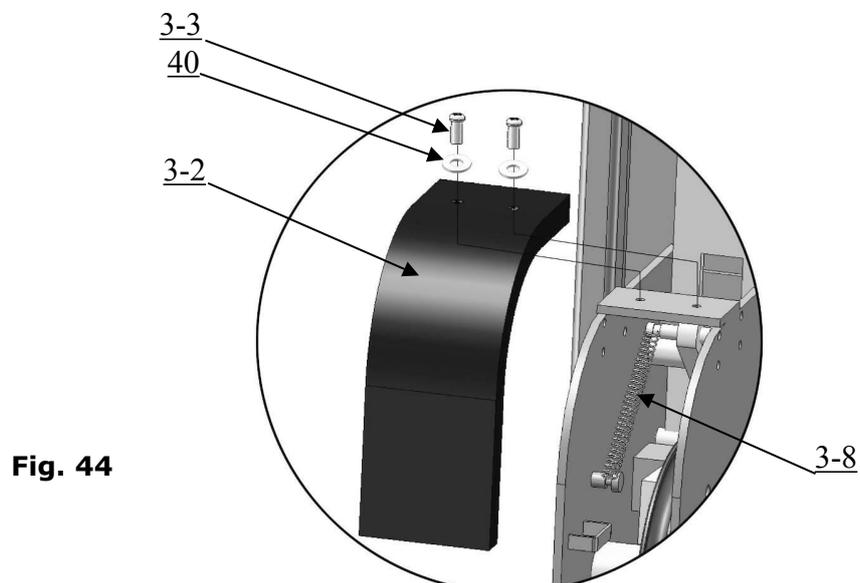

Fig. 44
O. Install spring and safety cover of cross beam (See Fig. 44)